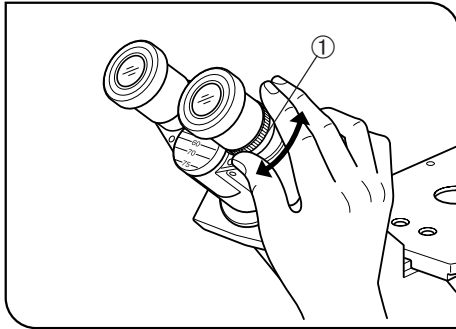

Fig. 11
(Figs. 11 to 13)
2. While looking through the right eyepiece with your right eye, turn only the diopter adjustment ring ① to focus on the specimen. (Fig. 11)